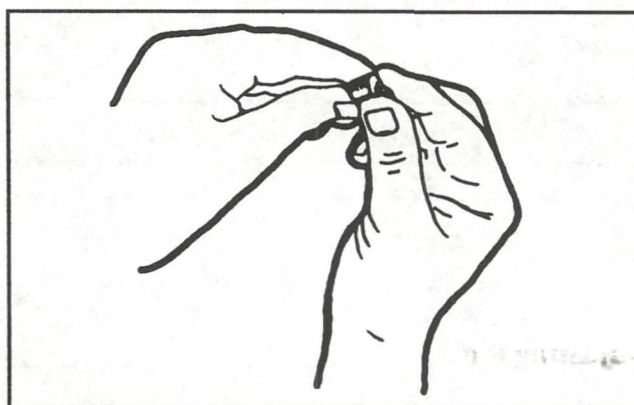

Fig. 30
4. Squeeze the filter to spread the oil (Fig. 30).